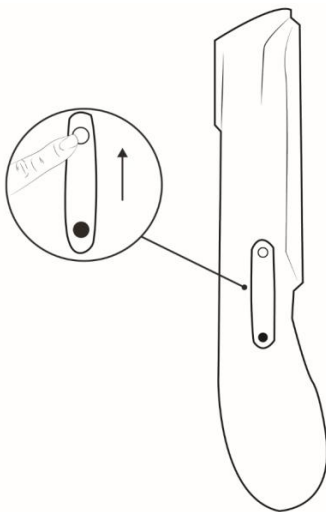

Figure 5: Rocker Switch in Standard Imaging Mode (in ‘up’ position)
2. Toggle the Rocker Switch to its “up” position (Figure 5).